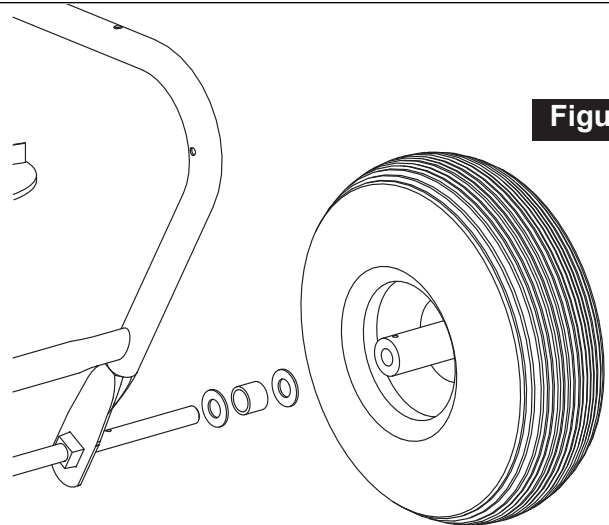

Figure 2
4. Install a 5/8" metal washer, axle spacer, and a second 5/8" metal washer onto axle, Figure 2. Slide wheel onto axle. Repeat on other side.